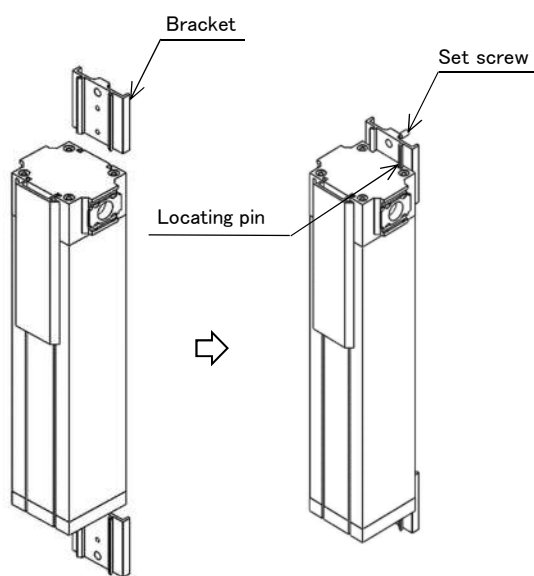

Fig.2
- 1) When bracket attached as an option is used, insert bracket to the rail slit of Nitrogen gas extraction unit, fix it by retaining screw after positioning with Stopper pin. (Refer to Fig.2)